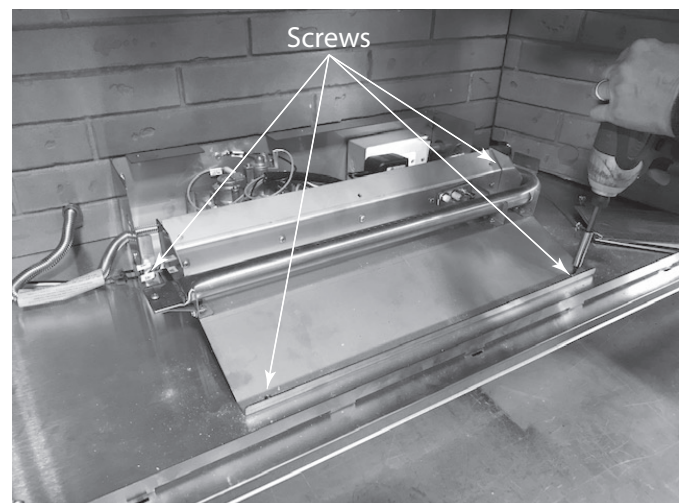

Figure 5.2 Firebox Bottom
Note: Reference Wiring Diagram in Section 5, Figure 5.2.
- Remove (4) screws that secure burner assembly to firebox bottom. See Figure 5.2.